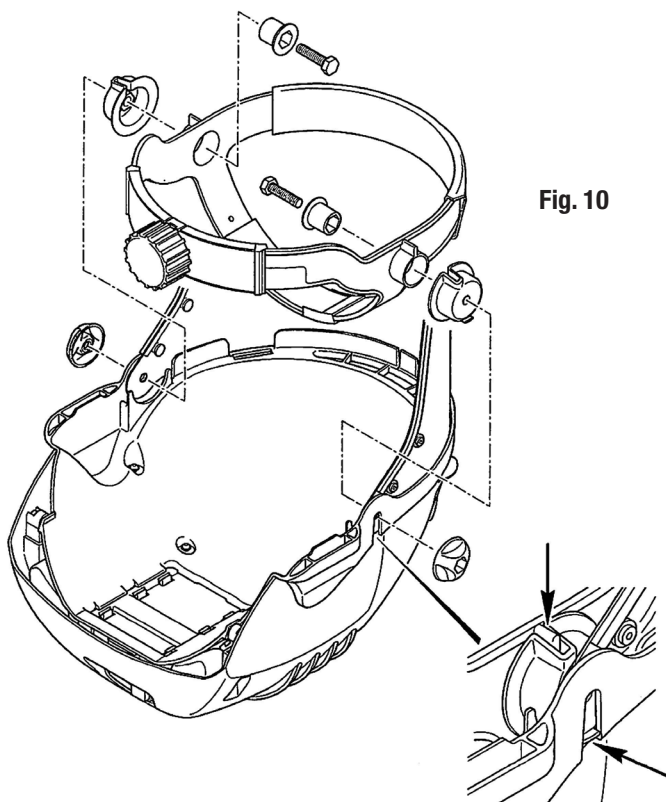

Fig. 10
- Remove the head band (see Headband assembly and Fig. 10 on page 12) and remove the crown pad by separating the hook & loop fastener – Separate the crown strap at the adjustment and remove the elastic loops on each side
Install the face seal on the headband (as described on page 11) and install the new headband assembly as shown in Fig. 10 below: